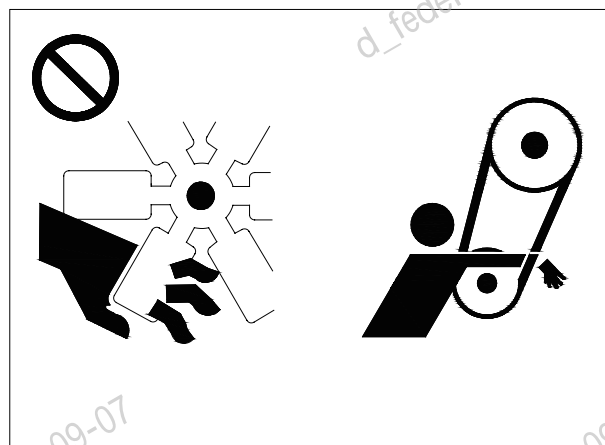

Fig.2-43
- Use pressure gauges to check fluid pressure values and air pressure values. See Fig.2-43. The correct uses of V-belt tension gauge have been described, see: **section 5.4.3.19 "Engine belt" on page 5-21.**